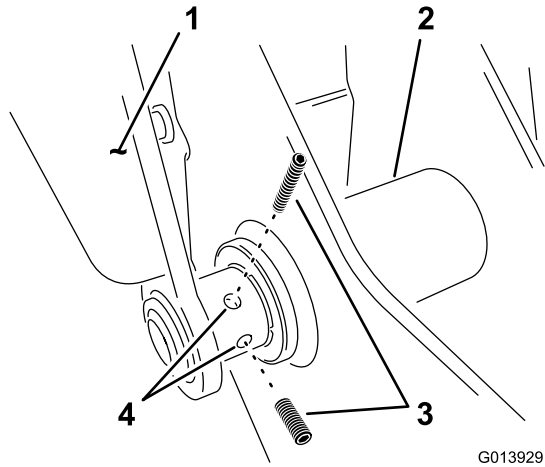

Figure 7
- Install 2 set screws to the left arm at the lower hinge point (Figure 7).
6. Tighten the 2 set screws on the left hand pivot arm, refer to Figure 7 in Assembling the Cradle Arms to the Support Frame (page 6).